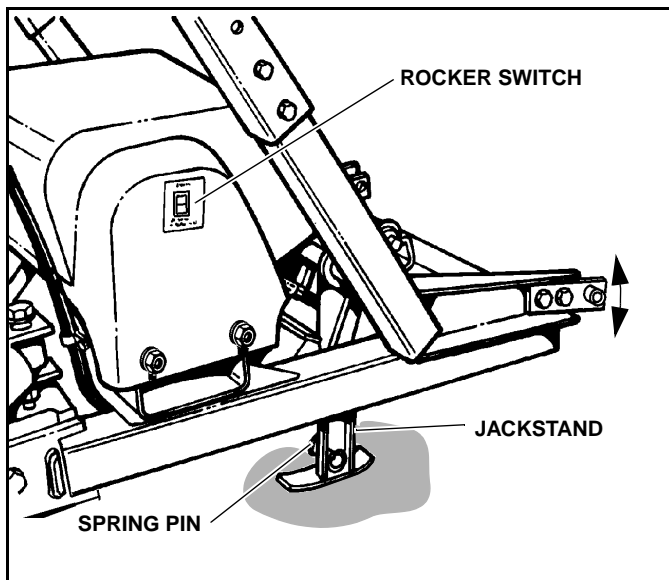

Figure 1-2
7. Raise the rear of the A-Frame (using the Rocker Switch on the pump cover) to ensure that the A-Frame is higher than the Subframe mounting points. The plow can then be manually moved into position for connecting the lower Hitch Pins. Move the plow manually by grasping one end of the blade and moving one side and then the other side. Again, if the plow is more than 3-4 inches from proper alignment, move the vehicle - it's easier. But remember to disconnect the electrical connections **BEFORE** backing away from the plow to avoid stretching and damaging the electrical Wiring Harness. (See Figure 1-2)
9. After the lower Hitch Pins and Lynch Pins have been installed, place the Rocker Switch in the lower position to allow the Jackstand to be raised off the ground. Then rotate the Jackstand forward and upward and latch it in the transport storage position with the Spring Pin. (See Figure 1-2)